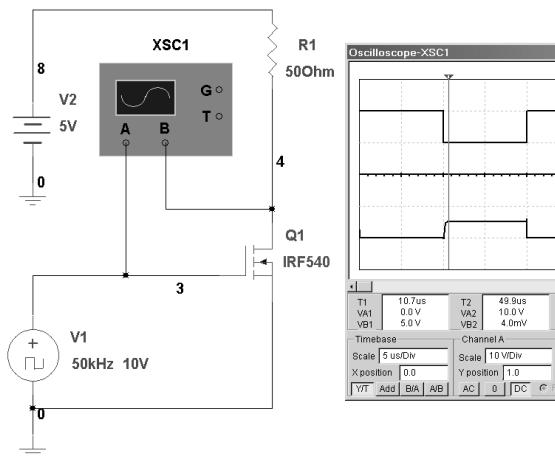

Figure 9-31 Desired motor response
1. The simplest model for a 5 V, 100 mA motor is a 50 Ω resistor. The resulting waveforms are shown in Figure 9-31. They indicate a well-behaved circuit. When the input is high, the transistor turns *on*. When the input goes low, the transistor turns *off* and the voltage across the transistor rises cleanly to 5 V.